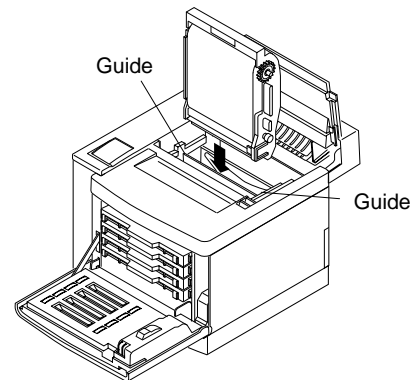

Fig.6-13
- 6) Install the new OPC belt cartridge into the guides at both sides in the printer. (Fig.6-13)